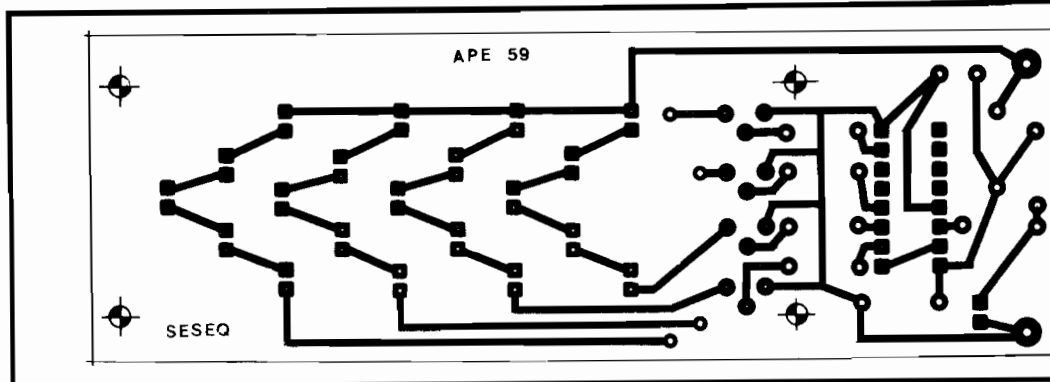

Fig.2
- FIG. 2 - LAY OUT DO CIRCUITO IMPRESSO ESPECÍFICO -